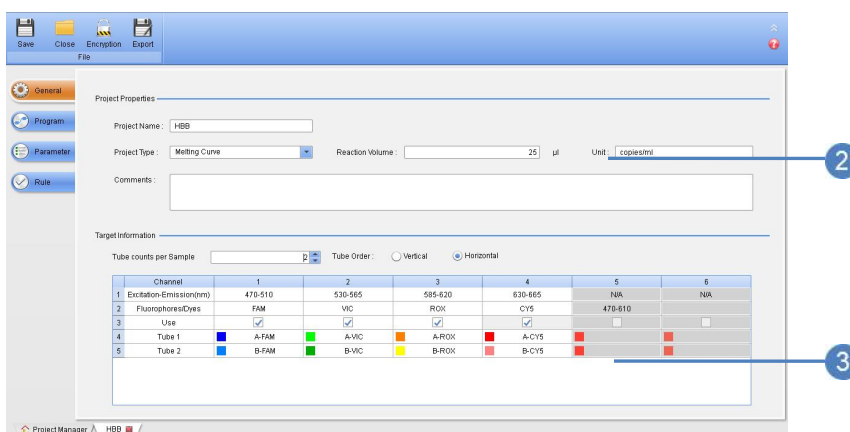

Fig 7- 20
- 2 Click **General** tab (Fig 7- 20) and select “Melting Curve” in the drop-down menu of **Project Type**; Enter project name and reaction volumn. If necessary, enter comments information.
- 3 Define target information (Fig 7- 20) in the table of **Target Information** according to the kit protocol. More information on target defining, go to 5.2 Create Project.